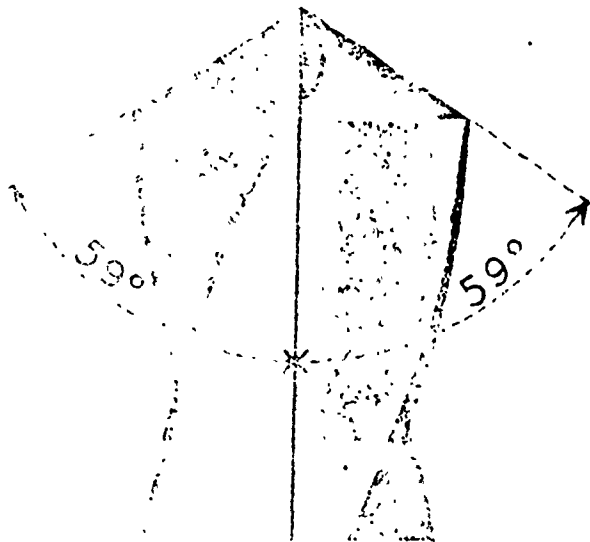
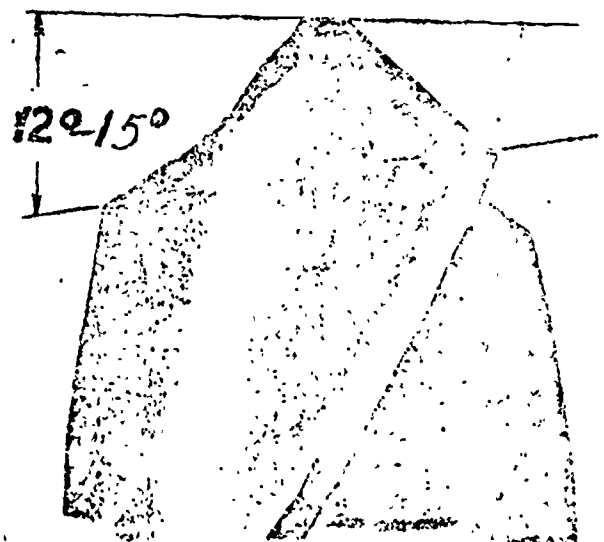

Fig. 1
Fig. 2
2. Set the Knurling tool so that the top roller is the same distance above the center of the work as the bottom roller is below the center of the work. The serrated faces of the Knurling rolls are set parallel to the surface of the work. (See Fig. 1). Tighten the tool post screw so that the knurling tool will not slip.
purpose To cut properly a drill must be sharpened to the correct point angle (See Fig. 1) and the cutting lips must have the proper clearance angle (See Fig. 2). The angle of the two cutting lips must be the same and length of the cutting lips must be equal. This coarse drill may be sharpened by hand on the bench grinder with a 60 grit aluminum oxide grinding wheel.
2. Hold the drill so that the cutting lip is parallel to the face of the wheel. Grind lip until bright metal shows all the way across. (See Fig. 2)